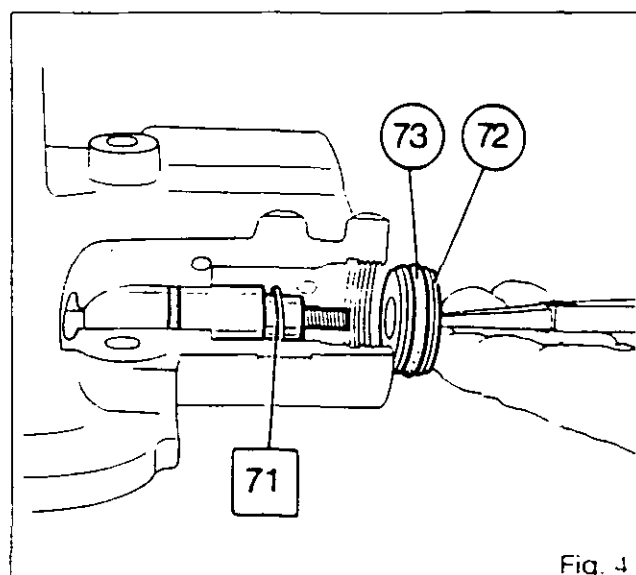

Fig. 4
4. Withdraw flat washer (74) and piston (72) with a pair of external circlip pliers (Fig.4).
5. Keep the adjusting shims [71] (Fig.4).
6. Remove O-ring (73) from the piston and discard it.